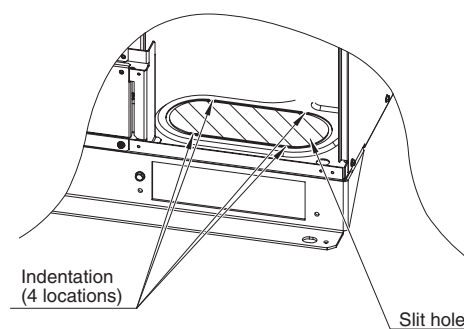

Fig. 3-6
- The tubing can be routed out either from the front or from the bottom. (Fig. 3-6)
- The connecting valve is contained inside the unit. Therefore, remove the front panel. (Fig. 3-6)